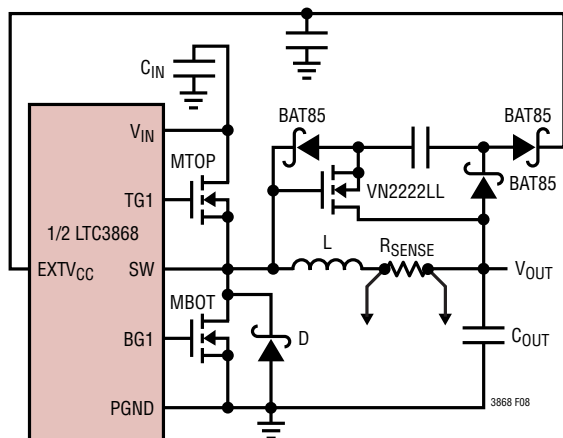

Figure 8. Capacitive Charge Pump for EXTV_{CC}
4. EXTV_{CC} Connected to an Output-Derived Boost Network. For 3.3V and other low voltage regulators, efficiency gains can still be realized by connecting EXTV_{CC} to an output-derived voltage that has been boosted to greater than 4.7V. This can be done with the capacitive charge pump shown in Figure 8. Ensure that EXTV_{CC} < V_{IN}.